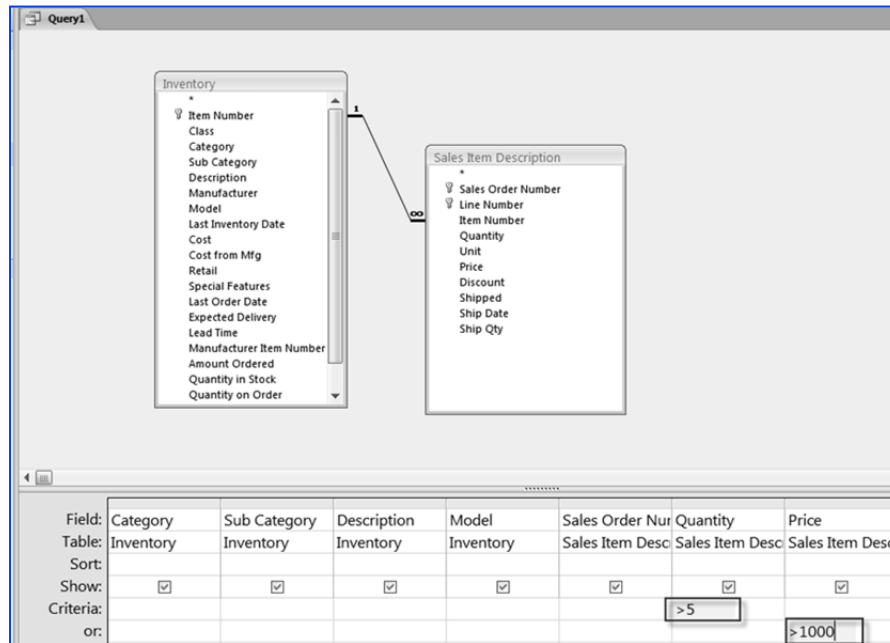

Fig. 3.3.11. Specify Compound Criteria
- In the *Criteria* section of the *Quantity* column write the criteria > 5 . In the next row, write the criteria for *Price* as > 1000 . The *Query* design window should appear as shown in Fig. 3.3.11.